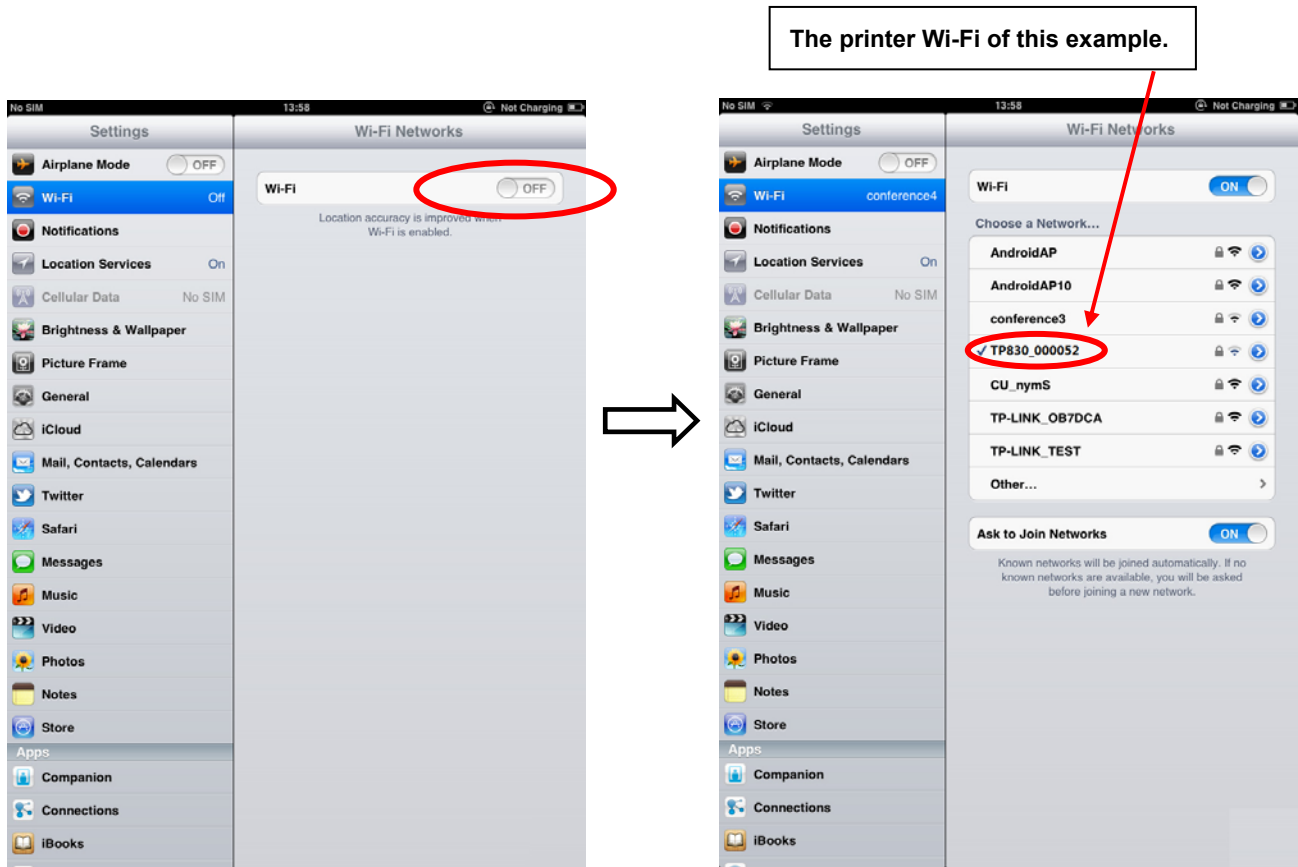

Figure 3
2. Click "Settings" and the interface pops up. Select the "WLAN" function to "ON", then click the printer Wi-Fi searched by the mobile phone to connect. The printer Wi-Fi default name is composed of "the printer model+6 numbers and letters" (as shown in Figure 3).